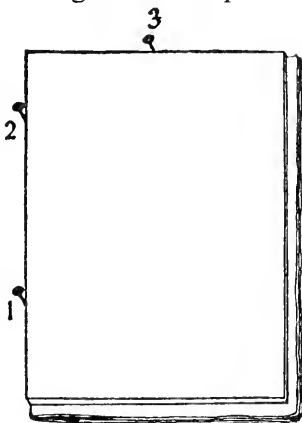
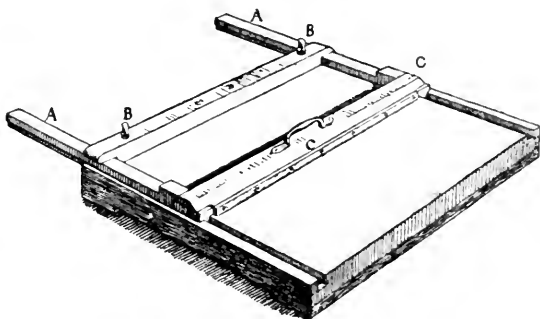

FIG. 23.
FIG. 24.
it touches No. 3 (see fig. 23). The board is slid in the same way, and anything projecting beyond it cut off. When the under straw-board has become inconveniently scored in the first position, by shifting the lower nail (1) a fresh surface will receive the cuts. Fig. 24 is a representation of a simple machine that I use in my workshop for trimming. The slides A A are adjustable to any width required, and are fixed by the screws B B.